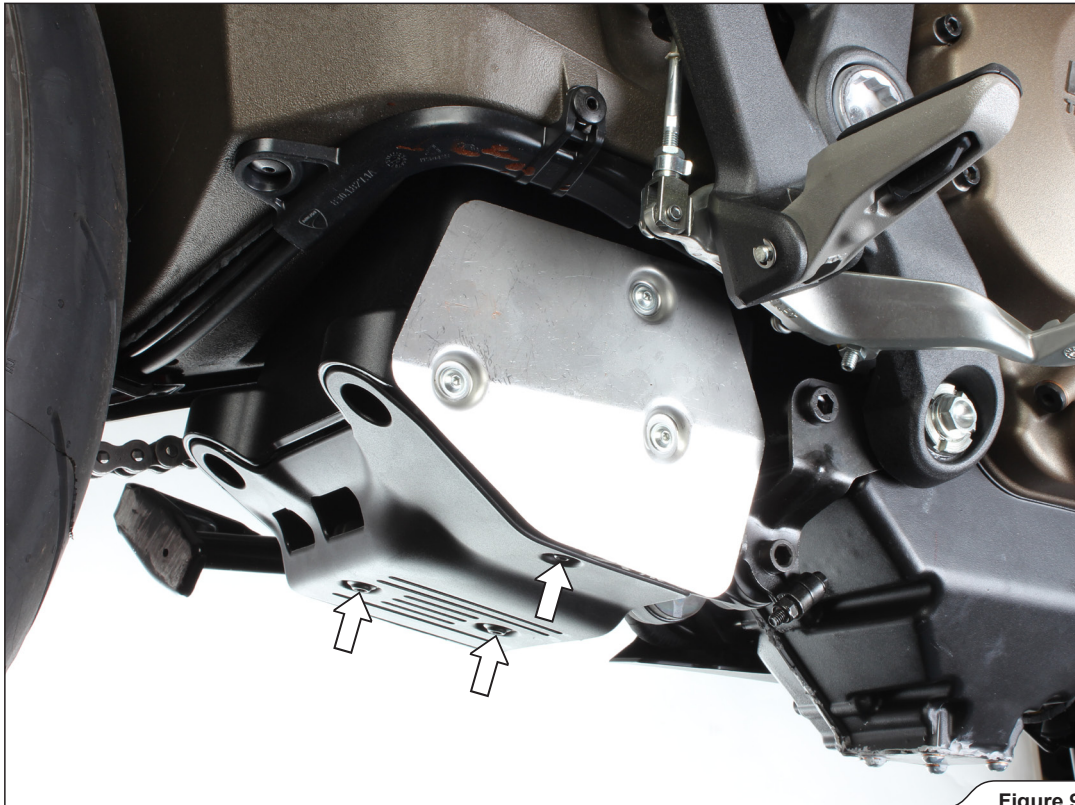

Figure 9
11. Unscrew the marked bolts and remove the servo motor's cover off the motorcycle (Figure 9).